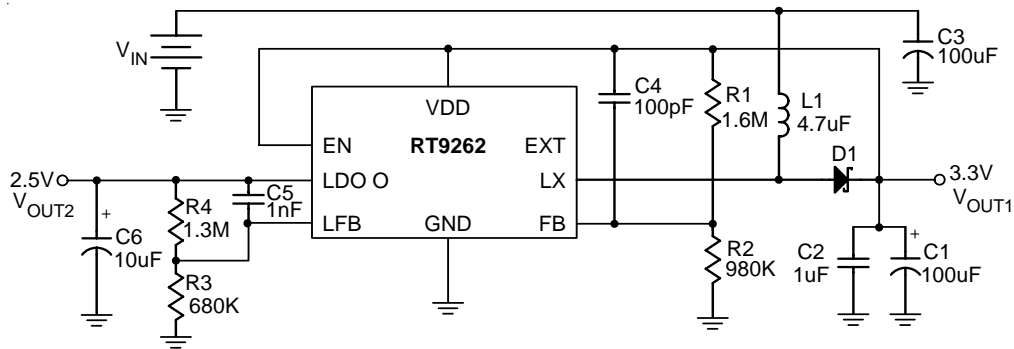
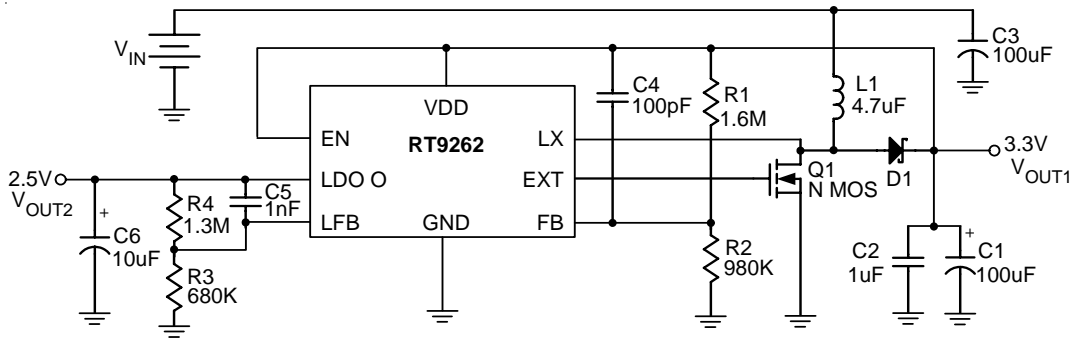

Figure 1. RT9262 Typical Application for Portable Instruments below 400mA
Figure 4. 0.4A ~ 2A Output Current Application
Referring to application circuits Figure 1 to Figure 5 the output voltage of the switching regulator (V_{OUT1}) can be set with Equation (1).
Referring to application circuits Figure 1 to Figure 5. The selection of R1, R2, R3, and R4 based on the trade-off between quiescent current consumption and interference immunity is stated below:
- Follow Equation (1) and Equation (2).
- A proper value of feed forward capacitor parallel with R1 (or R4) on Figure 1 to Figure 5 can improve the noise immunity of the feedback loops, especially in an improper layout. An empirical suggestion is around 100pF ~ 1nF for feedback resistors of MW, and 10nF~ 0.1µF for feedback resistors of tens to hundreds kΩ.
- The following diagram is an example of 2-layer board layout for application circuits Figure 1 to Figure 4.